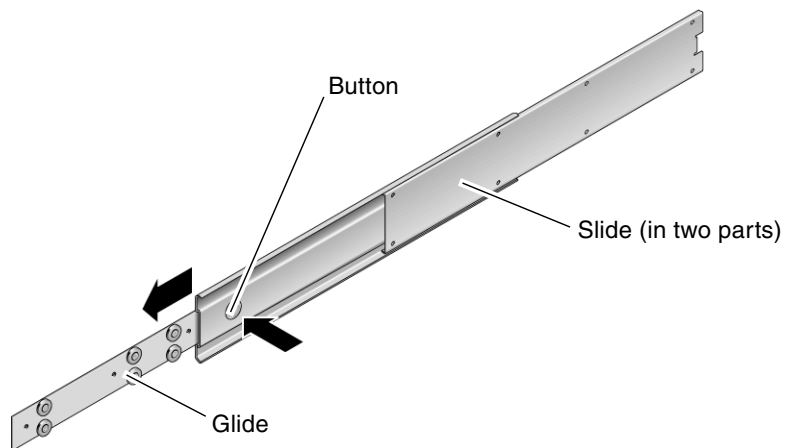

FIGURE 3-8 Dismantling the Slide
4. **Press in the button on each slide and pull the glide completely out of the slide (FIGURE 3-8).**